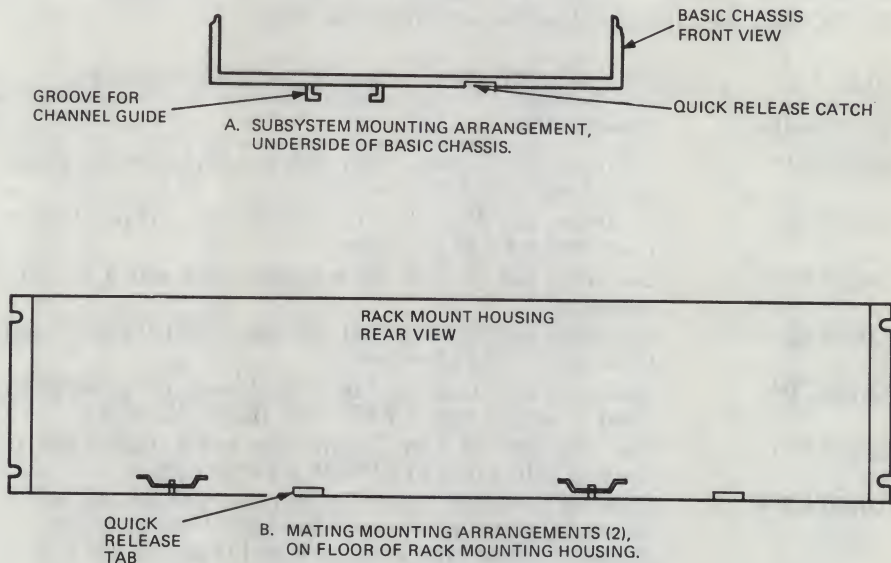

Figure 4-1 Removal from Rack Mount Housing
3. Press the quick-release tab on the rear of the rack mount unit and pull the basic chassis from the rack (Figure 4-1).